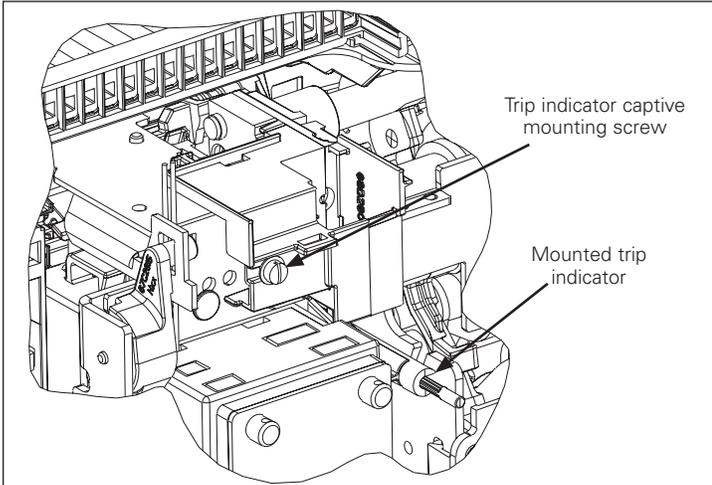

Figure 12. Step 2.
**Step 4:** Loosen the captive mounting screw (see Figure 12).